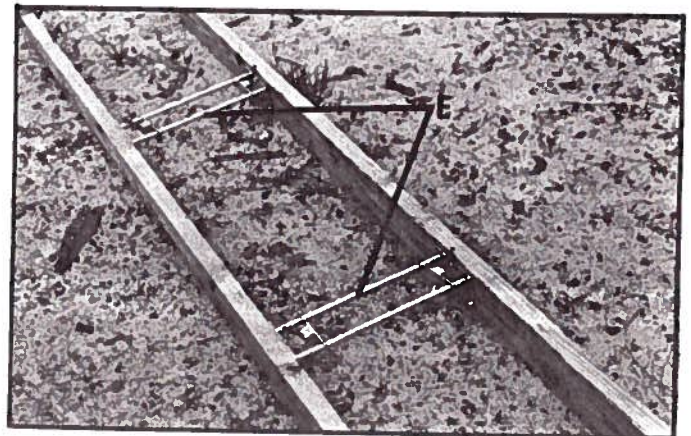

Fig. 40
4. Assemble brackets (E) Fig. 40, to two 2x4's as shown. Place 2x4's on a level surface when assembling brackets (E) Fig. 40.